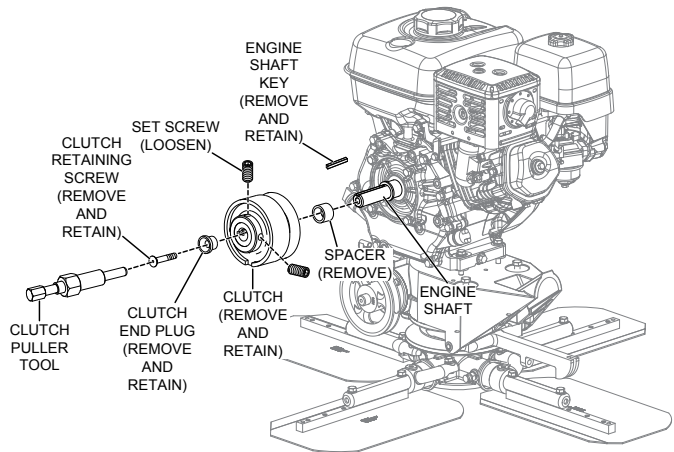

Figure 3. Clutch Removal
1. Using a 4mm-5mm allen head key, loosen the two clutch set screws (Figure 3).
2. Using a 8mm allen head key, remove and retain the clutch retaining screw (Figure 3).
3. Using a clutch puller tool (Figure 3), remove clutch from the engine shaft. The engine shaft key slides out when the clutch is removed.